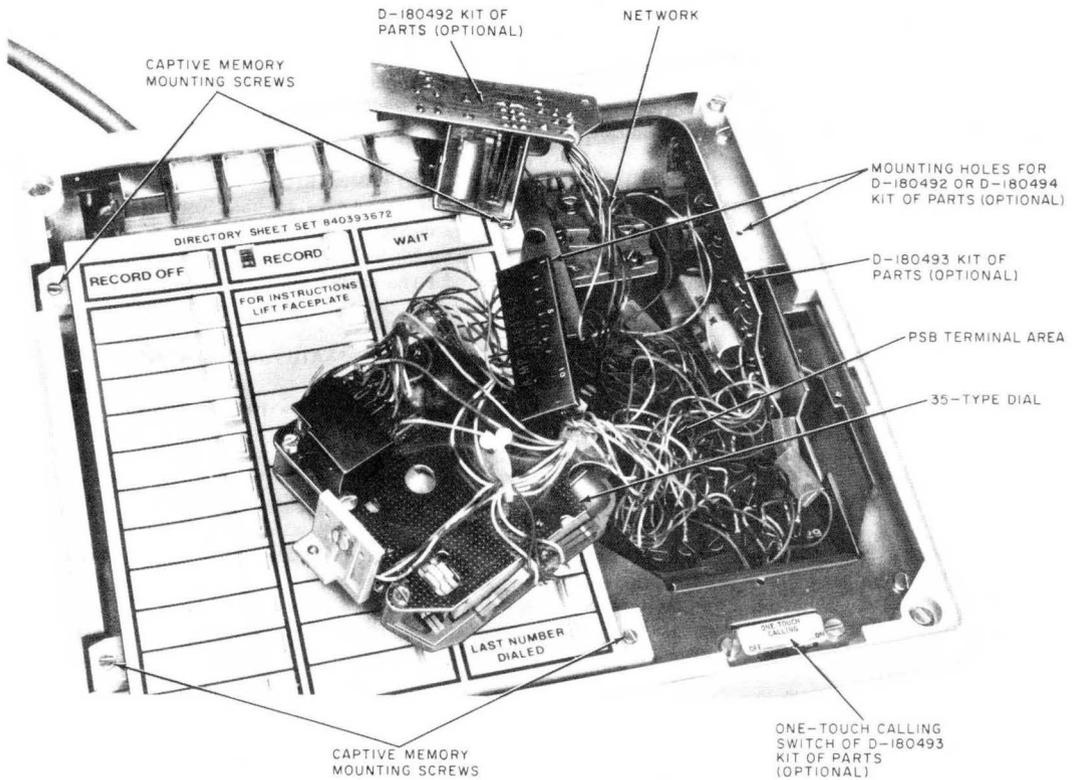

Fig. 4—2872A2M Telephone Set—Dial Removed To Show Terminal Area
- (1) Proceed as described in 3.16.
- (2) Make connections per the appropriate Tables, B through E.
- (3) Mount the kit assembly to the chassis with the screws provided (Fig. 4). Beveled corner of printed wiring board (PWB) should be located at lower right corner.
- (1) Remove the housing (3.21), and access PSB terminal board (3.17).
- (2) Insert the board assembly from the back of the set and locate as shown in Fig. 4, such that the two tabs on the board assembly fit into the slots in the bottom of the chassis.
- (3) Lock the board into position by inserting the self-threading screw through the right side of the chassis.
- (4) Mount the one-touch calling switch below the dial with the two screws provided.
- (1) Proceed as described in 3.17.
- (2) Make connections per Table G.
- (3) Mount the kit assembly to the chassis with the screws provided (Fig. 4).
- (1) Remove faceplate (3.19).
- (2) Loosen the captive screw at the bottom of the cover around the dial and remove the cover.
- (3) Disengage the four captive memory mounting screws (Fig. 4).
- (b) Under the faceplate, inside the set (Fig. 4 and 5):
- Power supply (PSB) terminal area (Fig. 4)
- Network (Fig. 4)
- Options (Fig. 4):